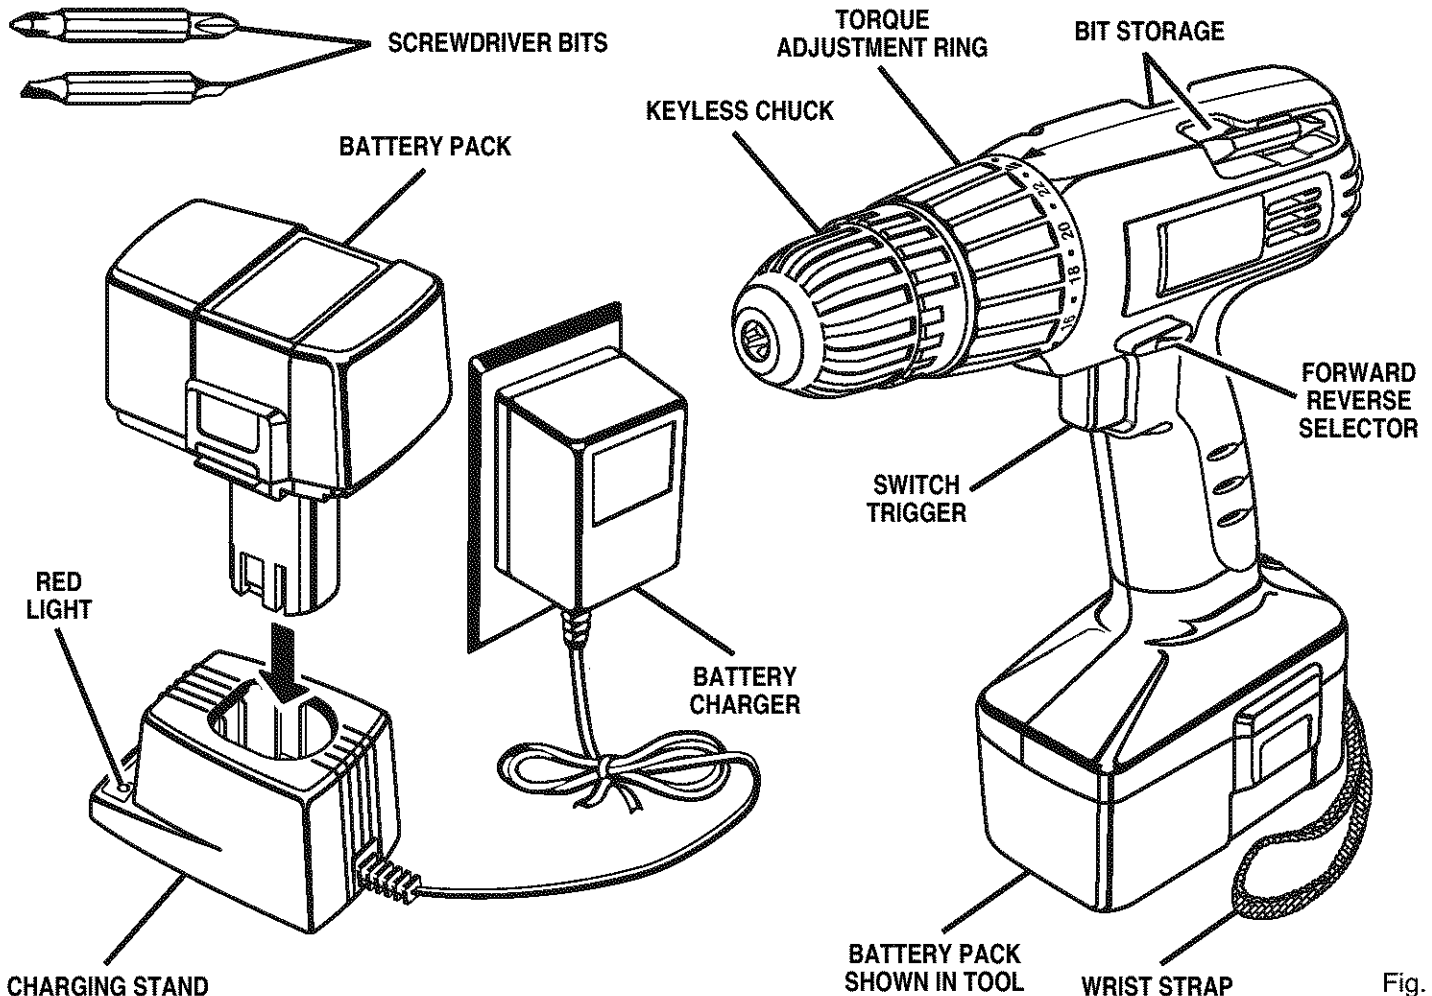

Fig. 1
This new drill-driver is equipped with the following features. See Figure 1.
- Place battery pack in charging stand. Align raised rib on battery pack with groove in charging stand. See Figure 1.